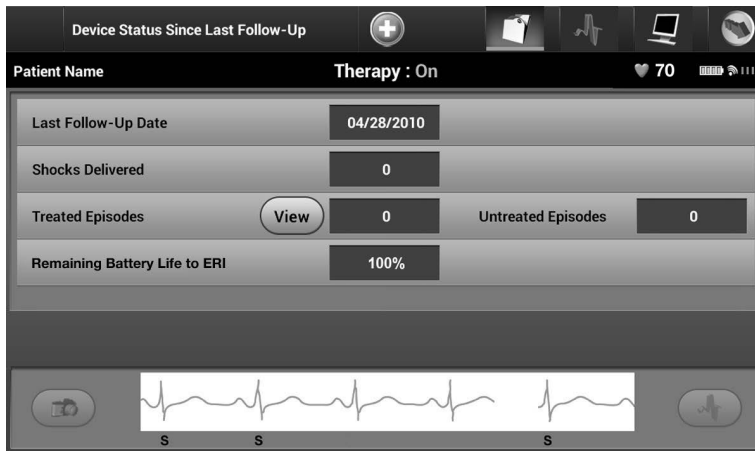

Figure 35: *Device Status screen*
4. The Device Status screen will appear showing an overview of all SQ-RX device activity since the last communication session (Figure 35).